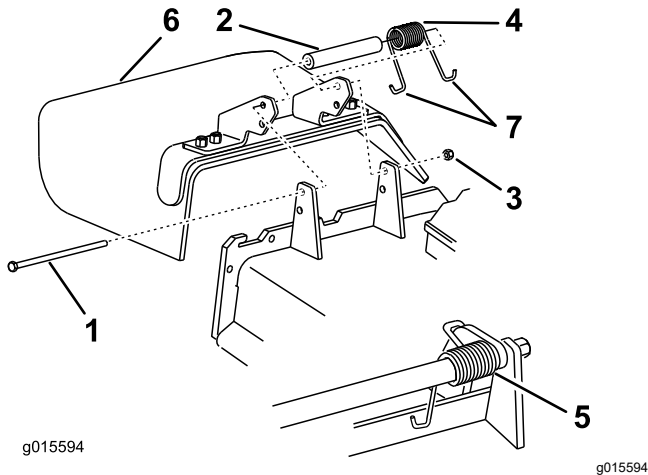

Figure 104
1. Remove the locknut, bolt, spring, and spacer holding the deflector to the pivot brackets (Figure 104).
2. Remove the damaged or worn grass deflector (Figure 104).
Note: Make sure that 1 J-hook end of the spring is installed behind the deck edge before installing the bolt as shown in Figure 104.
6. Place 1 J-hook end of the spring around the grass deflector (Figure 104).